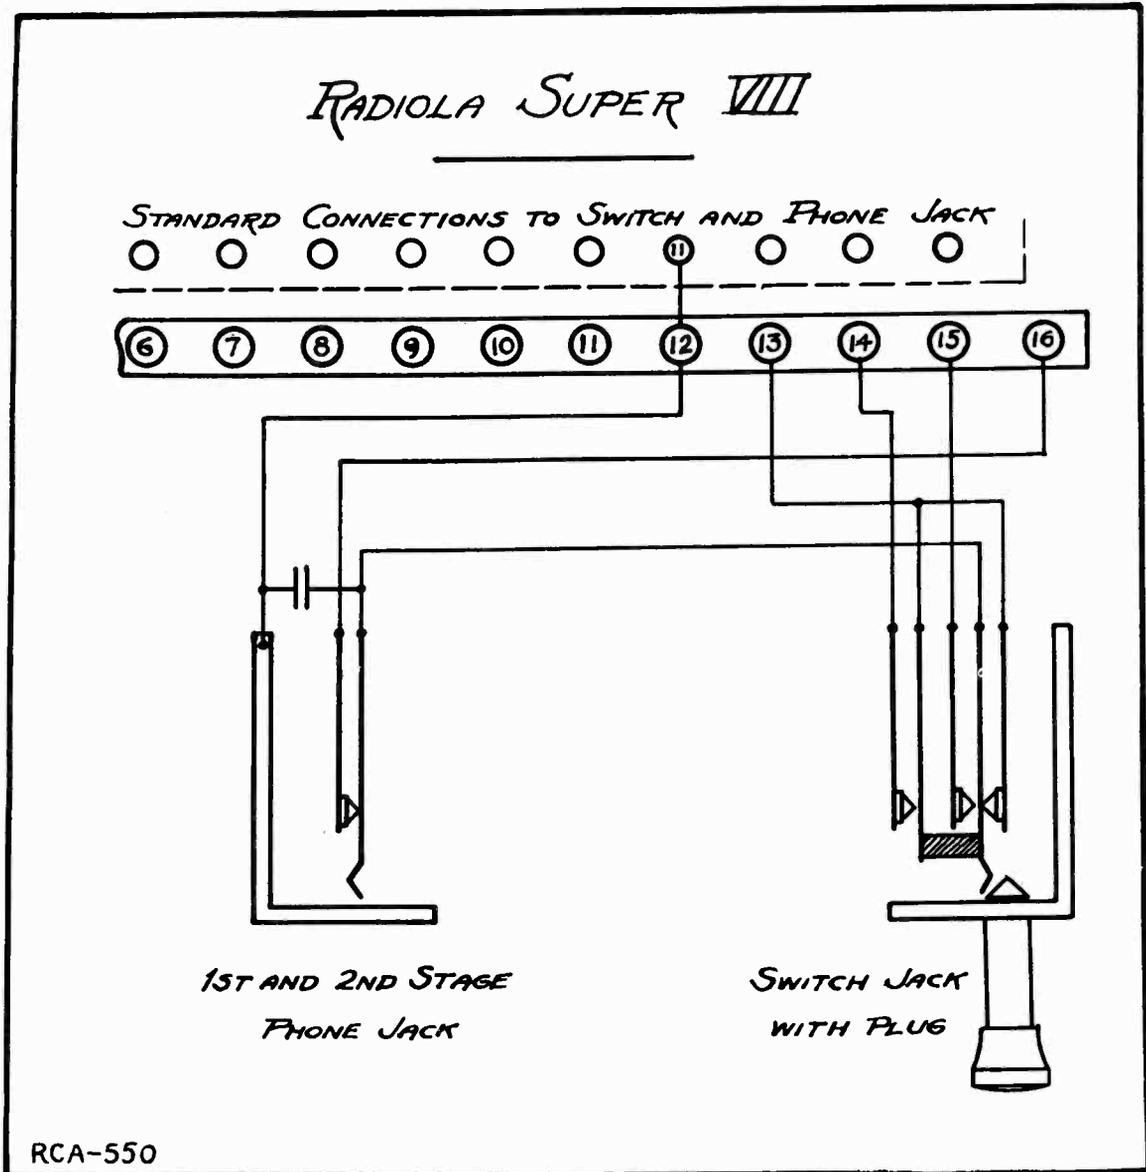

Figure 2
Figure 2 shows the normal wiring connections from the terminal board to the jacks in Radiola Super-VIII. This diagram is included for purposes of comparison with, and to facilitate making the new connections shown in Figure 3.
- (4) Remove amplifier switch plug as instructed in Part 1.
- (5) Referring to Figure 2, unsolder and remove wire running from terminal 15 to switch jack. Referring to Figure 3, make all other changes indicated in this diagram. Special attention is called to catacomb whisker number 11 (fourth from the right) which should be unsoldered from catacomb terminal number 12 and resoldered to the frame of the amplifier switch jack (1st stage). An extra length of insulated wire will be necessary to make this connection, soldering same to the whisker lead and carefully taping to avoid the possibility of it short-circuiting to any other terminal.
- (6) Solder an insulated wire to the frame of the amplifier switch jack (1st stage) and connect other end to the +90 terminal of Duo-Rectron.
- (7) Connect: